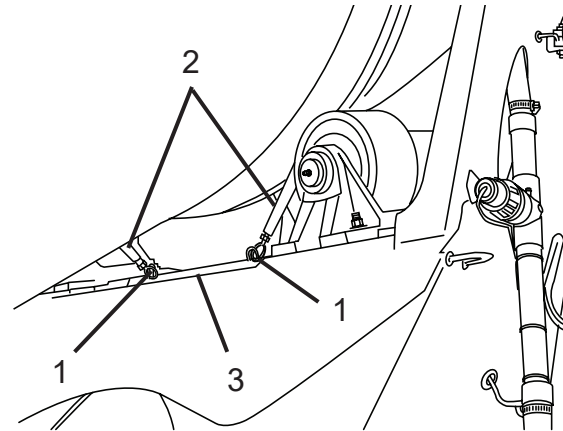

Figure 8
1. Loosen the turnbuckle jam nuts (Figure 8, Item 1).
2. Rotate the turnbuckles (Figure 8, Item 2) to retract the wedges from the drum roller track and rollers.
3. Remove the dual turnbuckle wedge assembly (Figure 8, Item 3) and any blocking from the rear pedestal.